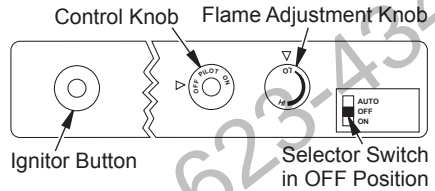

Figure 29 - Control Knob and Ignitor Button Location
4. Press in and turn control knob clockwise  to the OFF position (see Figure 29, page 24).
5. Wait five (5) minutes to clear out any gas. Then smell for gas, including near the floor. If you smell gas, STOP! Follow "B" in the safety information, starting in column 1, page 23. If you don't smell gas, go to the next step.
6. Press in and turn control knob counterclockwise to the PILOT position. Press in control knob for five (5) seconds (see Figure 29).